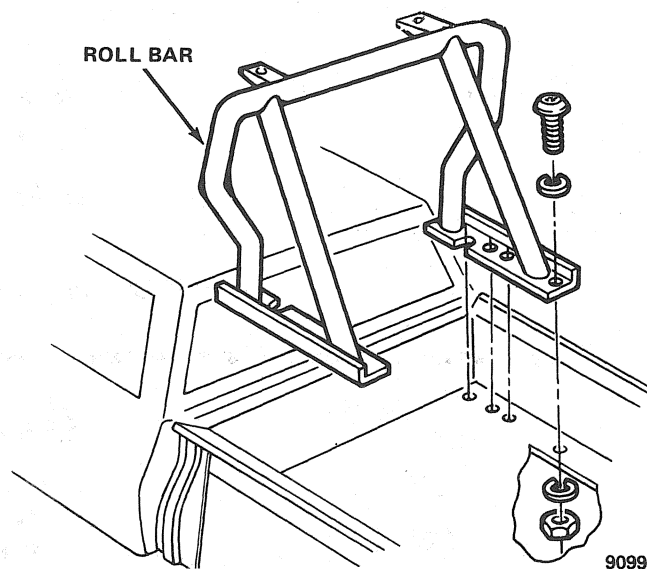

Fig. 3F-25 Roll Bar—Sport Truck Models
- (3) Remove nuts, washers and bolts attaching roll bar to bed of pickup box, using Torx Bit Tool J-25359-C (fig. 3F-25).
- (4) Remove roll bar assembly from pickup box.